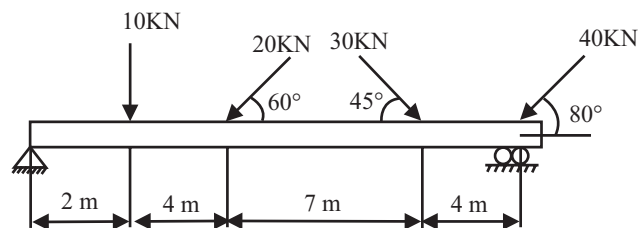

Fig 8.13
Q. 3: Determine algebraically the reaction on the beam loaded as shown in fig 8.13. Neglect the thickness and mass of the beam.